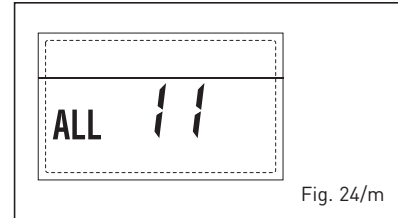

Fig. 24/m
- CONFIGURATION ANOMALY "ALL 12" (fig. 24/n)